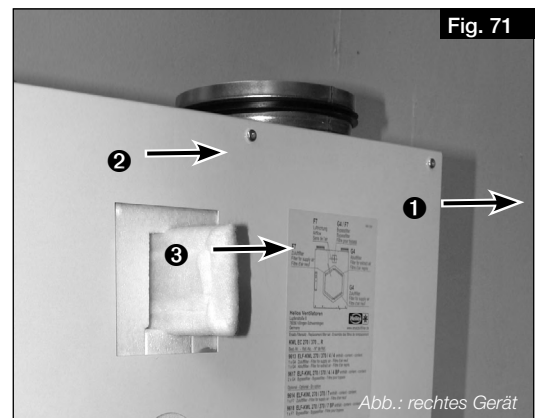

Fig. 71
2. Pull intake air filter **1** to the front and replace (see Fig. 71).
3. Pull extract air filter **2** (incl. frame) to the front and replace (see Fig. 71).
4. **Optional:** Pull fine/pollen filter (ePM1 50 %) **3** incl. frame to the front and replace (see Fig. 71).
① **Confirm via the easyControls 3.0 software or KWL-BE Touch.**